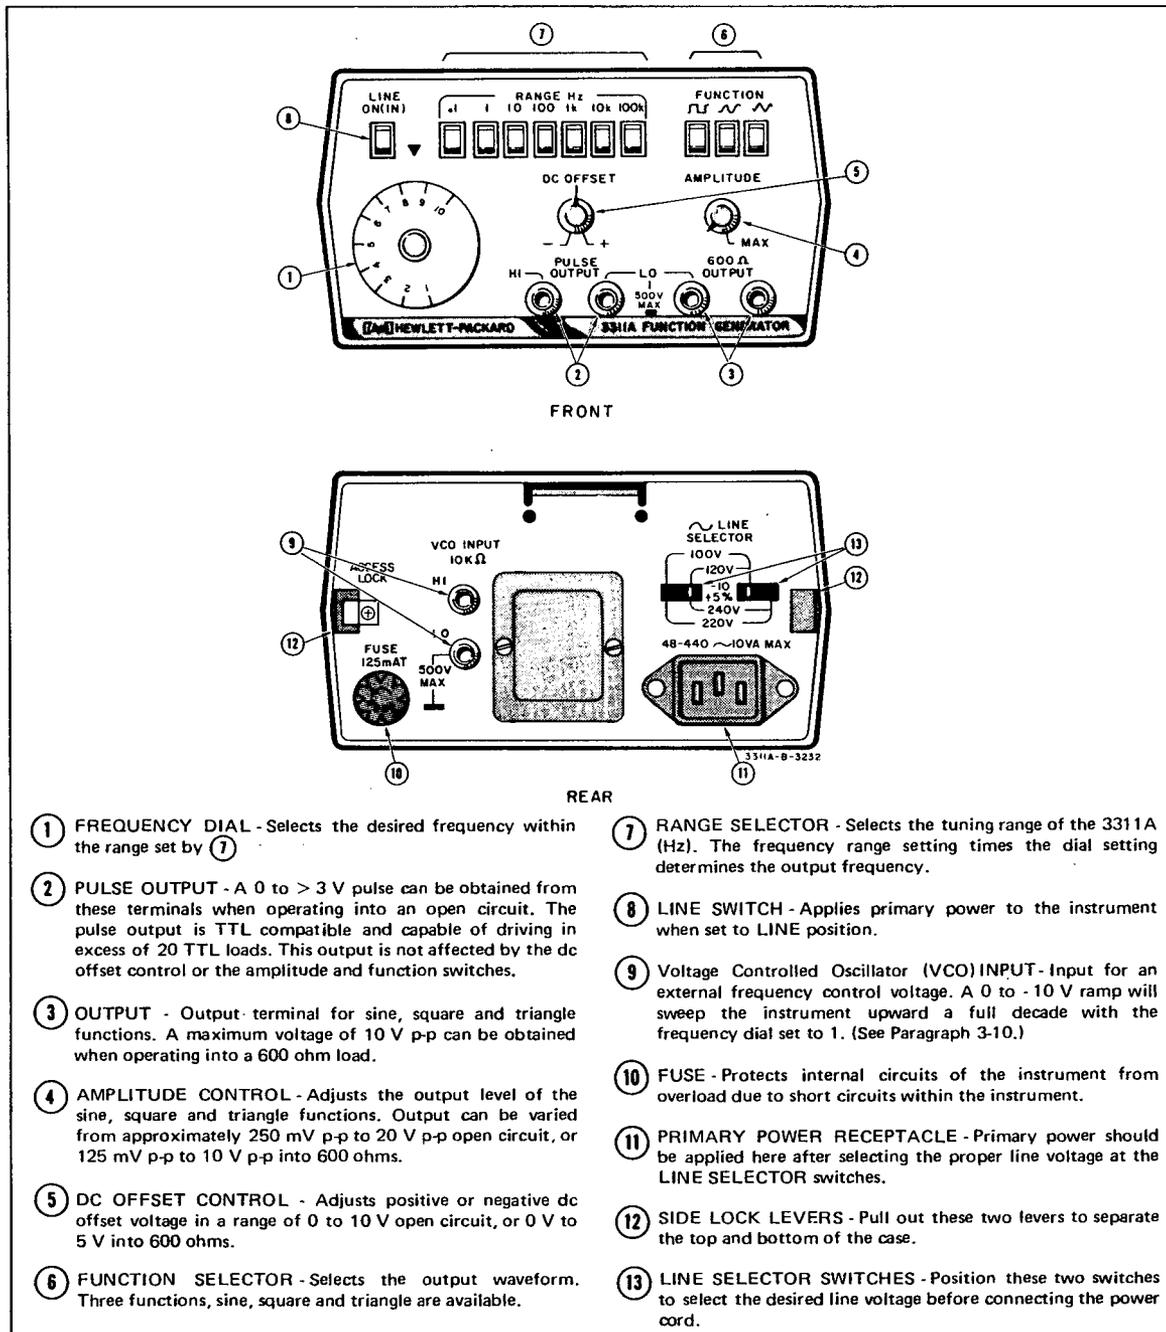

Figure 3-1. 3311A Front and Rear Panel Features.
3-4. Panel features for the Model 3311A are described in Figure 3-1. Each operating control, indicator and connector is identified by an associated number and described by a paragraph with the corresponding number.
3-8. Select the function desired (⑥ of Figure 3-1). Set the RANGE switch (⑦) and the frequency dial (①) to the desired settings. The output frequency of the 3311A equals the RANGE setting times the dial setting. Turn the AMPLITUDE control (④) to minimum and connect the load to the OUTPUT terminals (③). Connect an oscilloscope to the OUTPUT terminals (③), and adjust the AMPLITUDE control for the desired output level. If DC OFFSET is desired set the offset (⑤) to the desired level using a dc coupled oscilloscope. DC offset can be obtained on sine, square or triangle functions. The pulse cannot be dc offset.